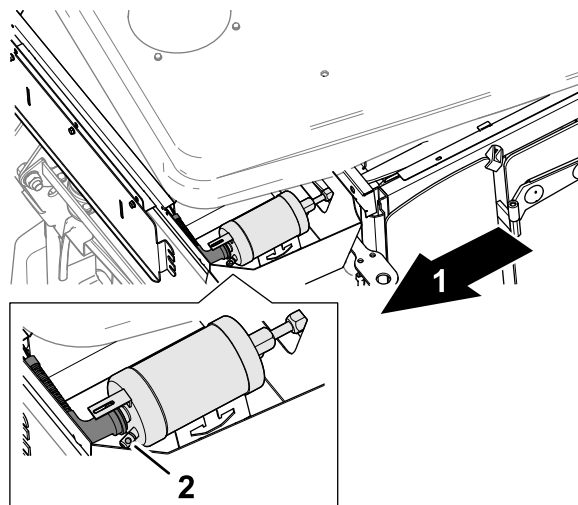

Figure 33
4. Move the roof enough to access the collecting-filter tank (Figure 33).
5. At the roof, observe the refrigerant-level sight gauge of the collecting-filter tank (Figure 33). If there are more than the occasional bubble seen through the sight glass, contact your authorized Toro distributor for service.